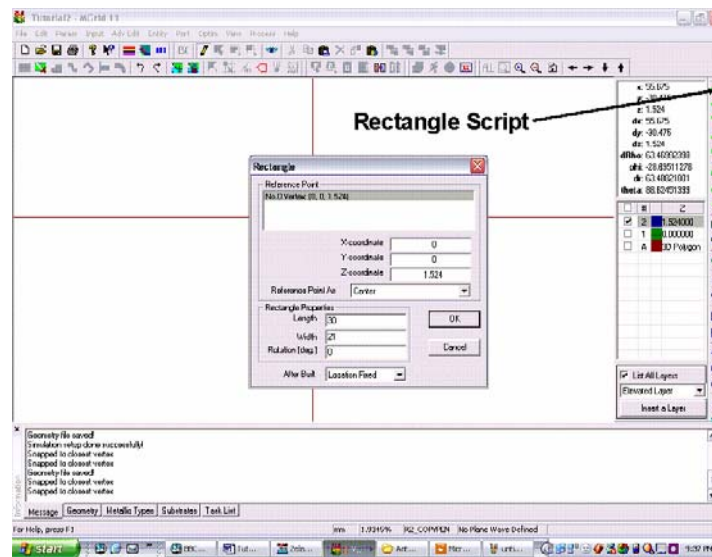
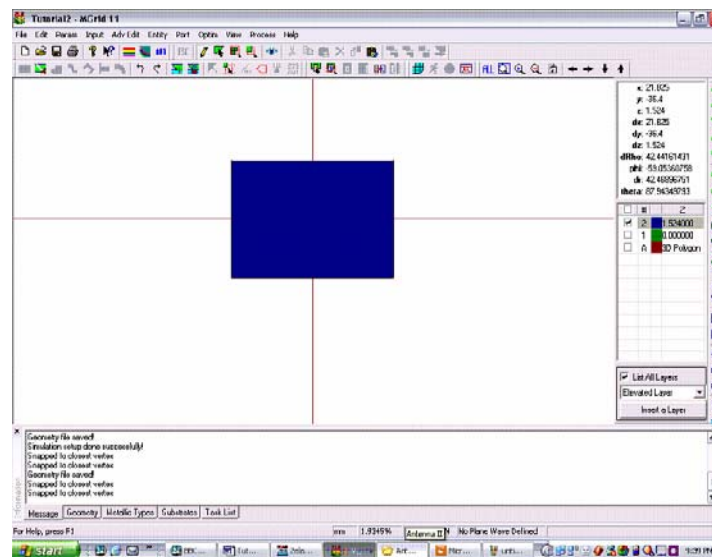

Figure 6.
Figure 7.
- 7) First, we will draw a rectangle with the length of 30 mm and width of 21 mm. We can draw the layout manually or use the available scripts to draw them. In this case, we will draw them using the scripts. Click on the rectangle script button shown in Figure 6 ( ). Enter 30 for Length and 21 for width as shown in Figure 6 and click OK. Now your layout should look like Figure 7.